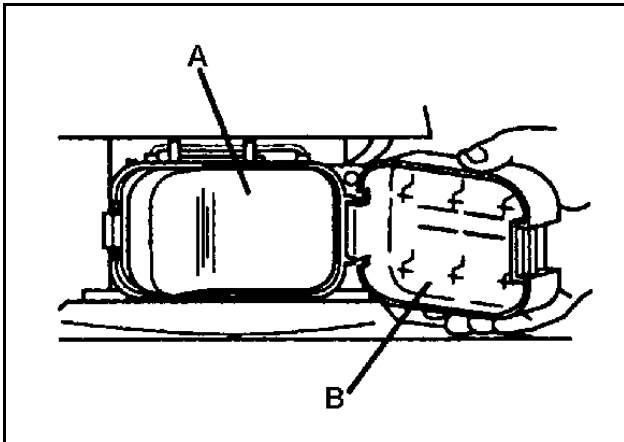

Figure 1
1. To remove air filter (A), snap cover latch open, swing to side, and unhook. Remove the cover (B) and air filter. (See Figure 1.)